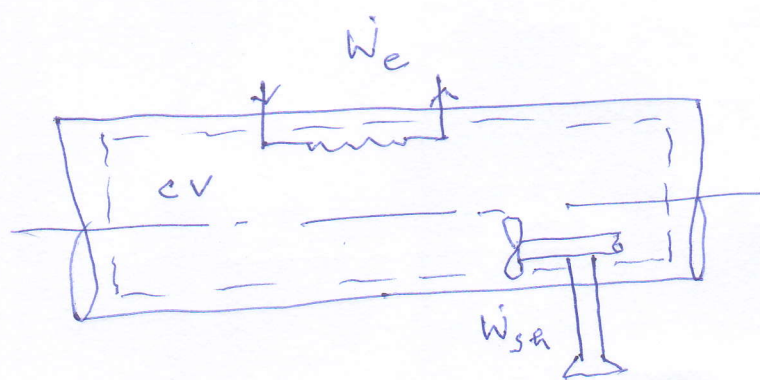

Fig. 5 Pipe or duct flow
- If the control volume involves a heating section (electric wires), a fan, or a pump (shaft), the work interactions should be considered. See Fig. 5.